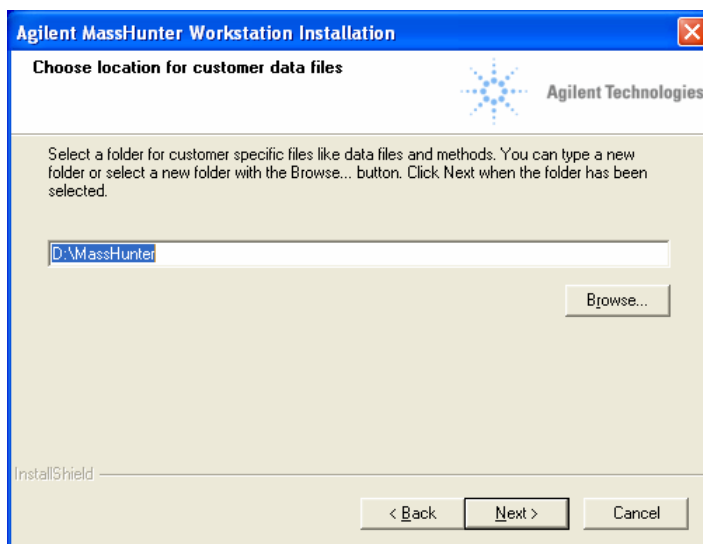

Figure 19 Choose location for customer data files screen
- In the Choose location for customer data files screen, check that the default of D:\MassHunter is displayed in the text box, then click **Next**. See Figure 19.